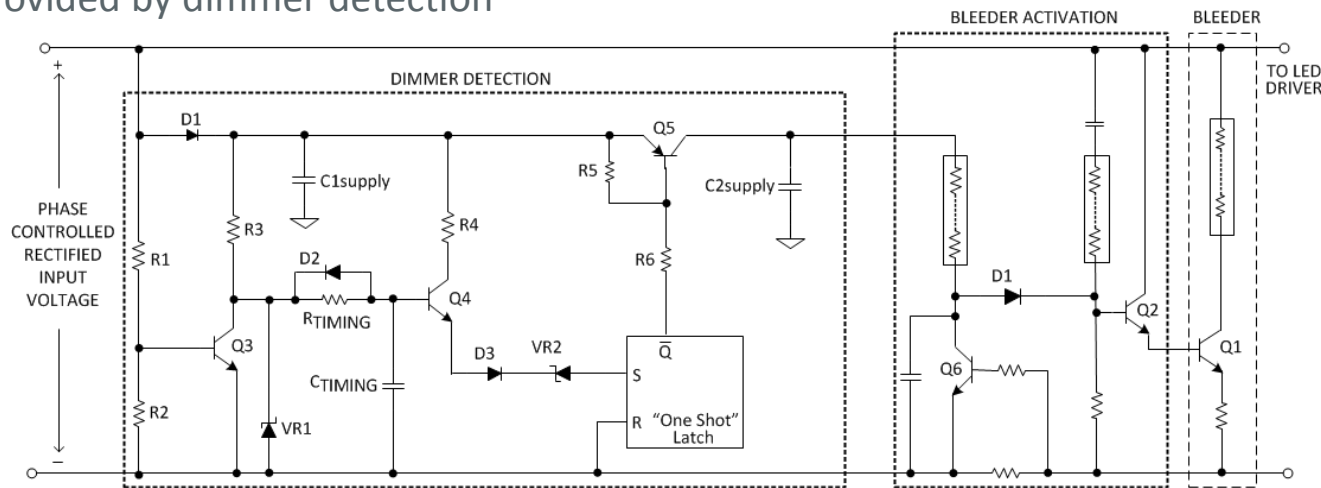

Figure 2. Detailed schematic of edge detection and bleeder activation circuit
- ▶ Multiple ways to implement the idea with simple electronic devices (Figure 2 illustrates an example circuit)